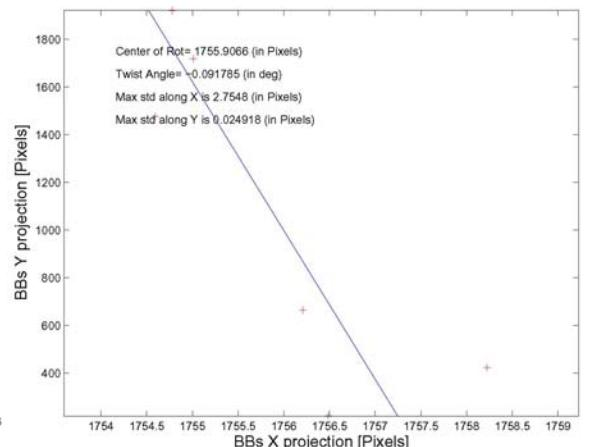

Figure 7-94
d.) Graph 15 should be a vertical line with a points spread of \pm 1.5 pixels (Figure 7-94).
20. Write down values for twist angle (same as tilt angle), center of rotation and central slice on the worksheet as listed in Figure 7-94 or from the terminal from which the run_CTCalibration command was performed.